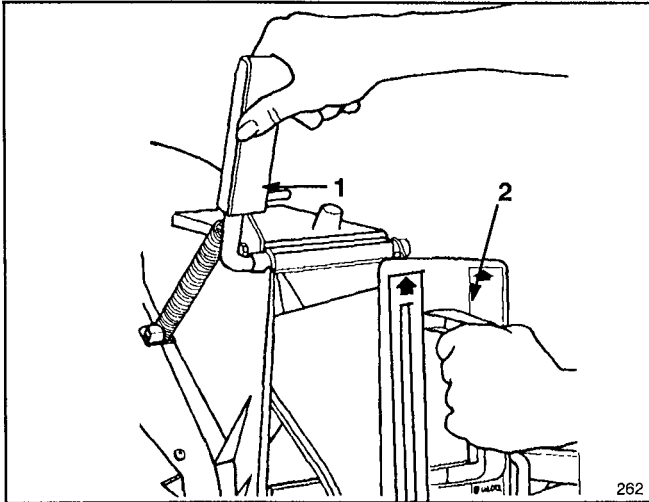

Figure 11
1. Make sure engine is off. Open the discharge door by pulling forward on the handle and moving it rearwards (Fig. 11). Hold the discharge door handle to prevent the spring-loaded door from closing while inserting the plug.
2. Since the plug is slightly wider than the discharge tunnel opening, you must rotate the plug clockwise slightly while inserting it (Fig. 11). Make sure the arrow on the plug decal is pointing upwards.